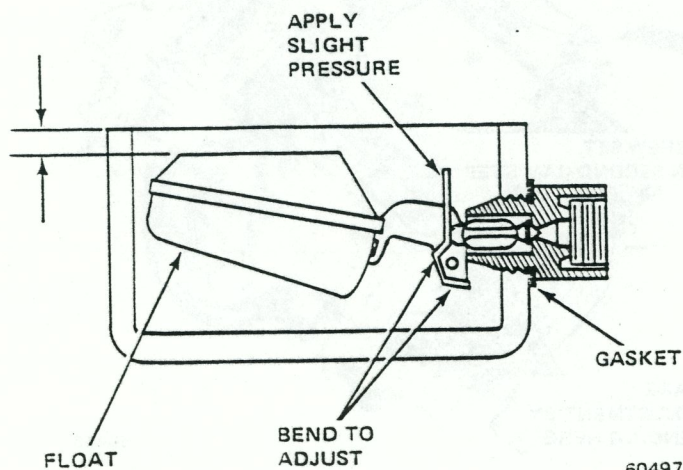

Fig. 1J-108 Float Level Adjustment
- (1) Remove air horn.
- (2) Raise float gently against needle and hold (fig. 1J-108).